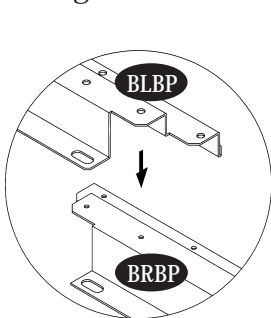

Fig.1
4. Assemble base bar back left (BLBP) and base bar back right (BRBP) with four (S7) screws. See fig. 1 & 2.